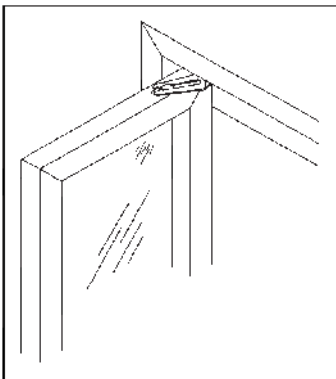

Figure 15
- a. open the door to just before detent and place one side of the spring into the top groove of the pin on the door. Refer to Figure 15 .